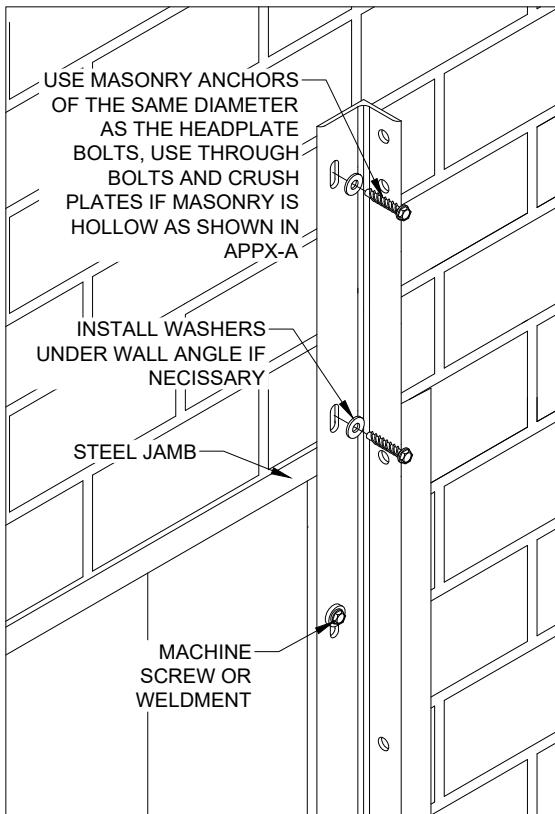

FIGURE 15
- b.d. Wall angles may extend above steel jambs onto masonry (see figure 15).